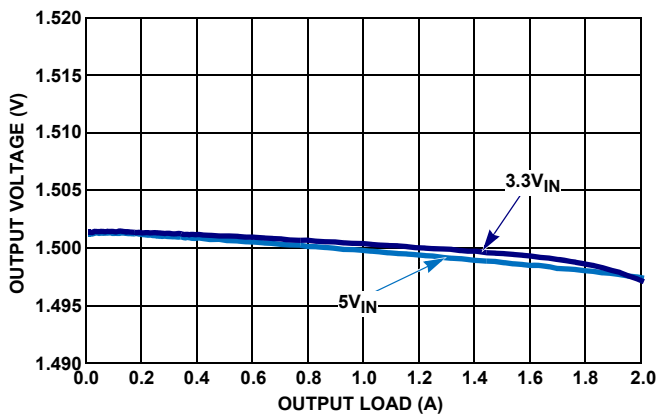

FIGURE 8. V_{OUT} REGULATION vs LOAD, $f_{SW} = 2\text{MHz}$, $V_{OUT} = 1.5\text{V}$, $T_A = +25^\circ\text{C}$
- Not tested in production. Characterized using evaluation board. Refer to Figures 8 through 11 load regulation diagrams. $+105^\circ\text{C}$ T_A represents near worst case operating point.